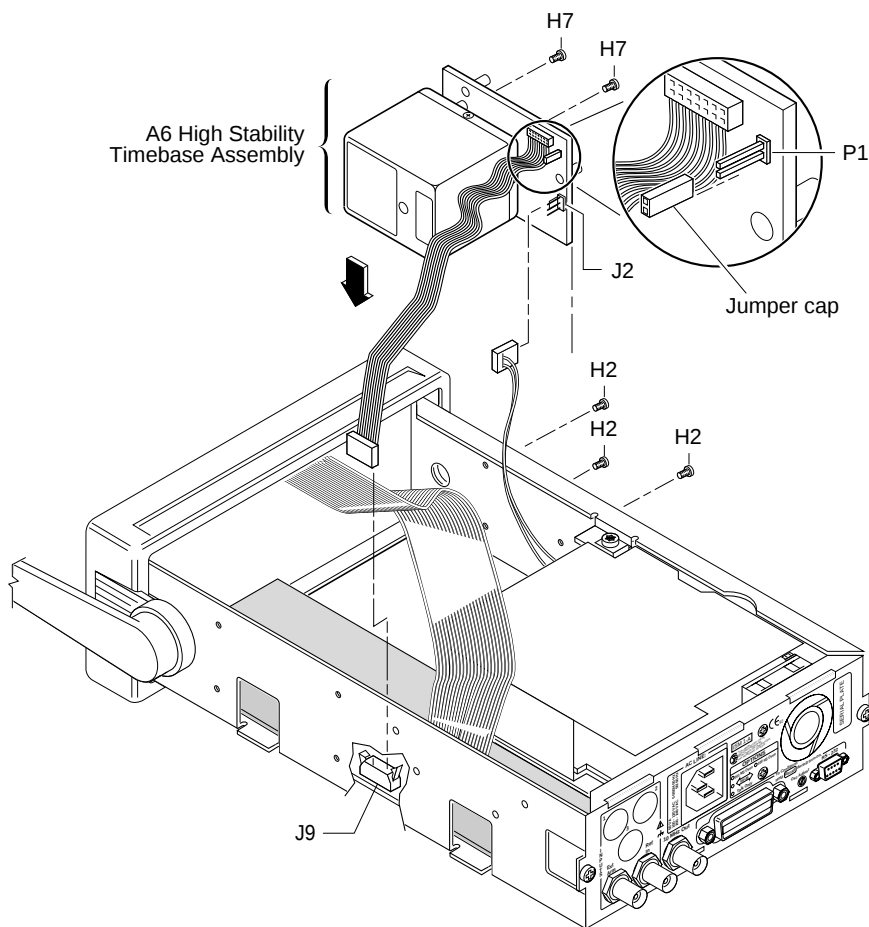

Figure 4-2. High Stability Timebase Retrofitting (Option 001, 010, 012)
- 4 **Plug the oven oscillator into the socket on A6 Timebase Support Board, and secure the oven oscillator to A6 using the two Pozidriv screws (H7) as shown in Figure 4-2.**
- 5 **Plug the oven oscillator into the socket on A6 Timebase Support Board, and secure the oven oscillator to A6 using the two Pozidriv screws (H7) as shown in Figure 4-2.**
- 6 **If you are retrofitting the Option 001 Medium Stability Timebase, remove the jumper cap on P1 of A6 Timebase Support Board as shown in Figure 4-2.**
- 7 **Mount A6 High Stability Timebase Assembly on the left side using three TORX 10 screws (H1) as shown in Figure 4-2.**
- 8 **Plug the power supply assembly's two-wire cable into the three-prong connector (J2) on the high stability timebase assembly as shown in Figure 4-2 (if the two-wire cable exists).**
- 9 **Connect A6 High Stability Timebase Assembly cable to connector J9 on A1 Motherboard Assembly as shown in Figure 4-2.**